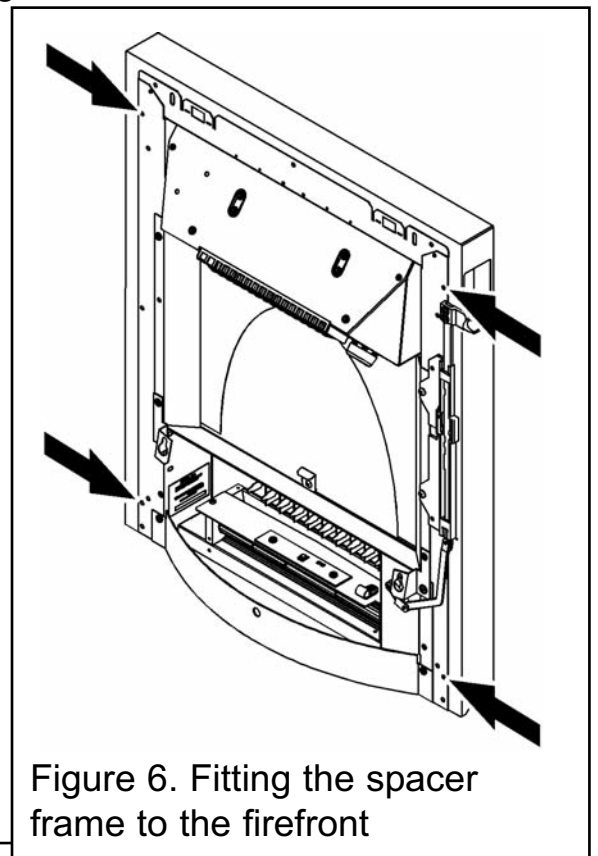

Figure 6. Fitting the spacer frame to the firefront
2. Secure the spacer frame to the firefront using four No.8 x 3/8 screws supplied (See figure 6 & 2).